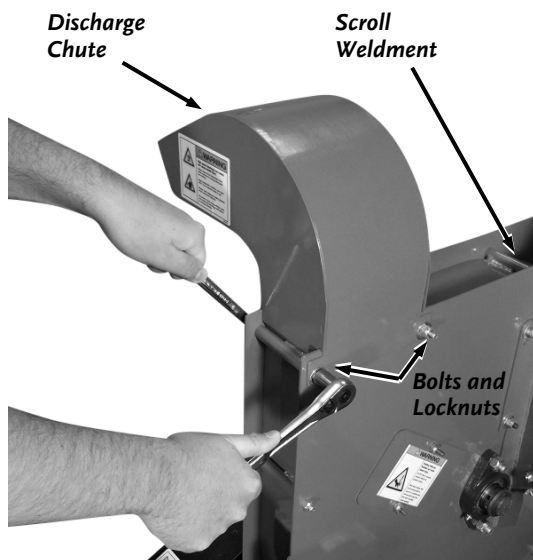

Figure 65
1. Remove the two Bolts and Locknuts from the Discharge Chute with two 1/2" wrenches (**Figure 65**).